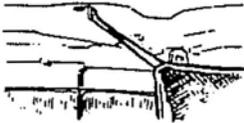
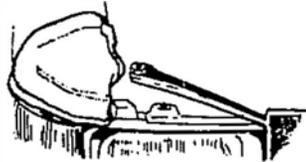

figure 16
figure 17
2.17 Secure the screen over the radiator grille by attaching the s-hook to the opening in the sheetmetal crossmember that traverses the space between the fenders as shown in figure 16, or loop the elastic loop over the hood's height adjustment post as shown in figure 17.